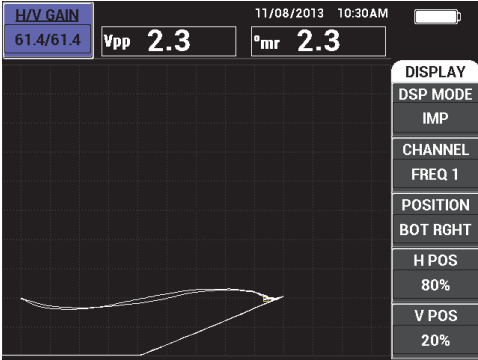

Figure 4-3 Probe liftoff—initially not horizontal
- The liftoff is not horizontal (see Figure 4-3 on page 79).